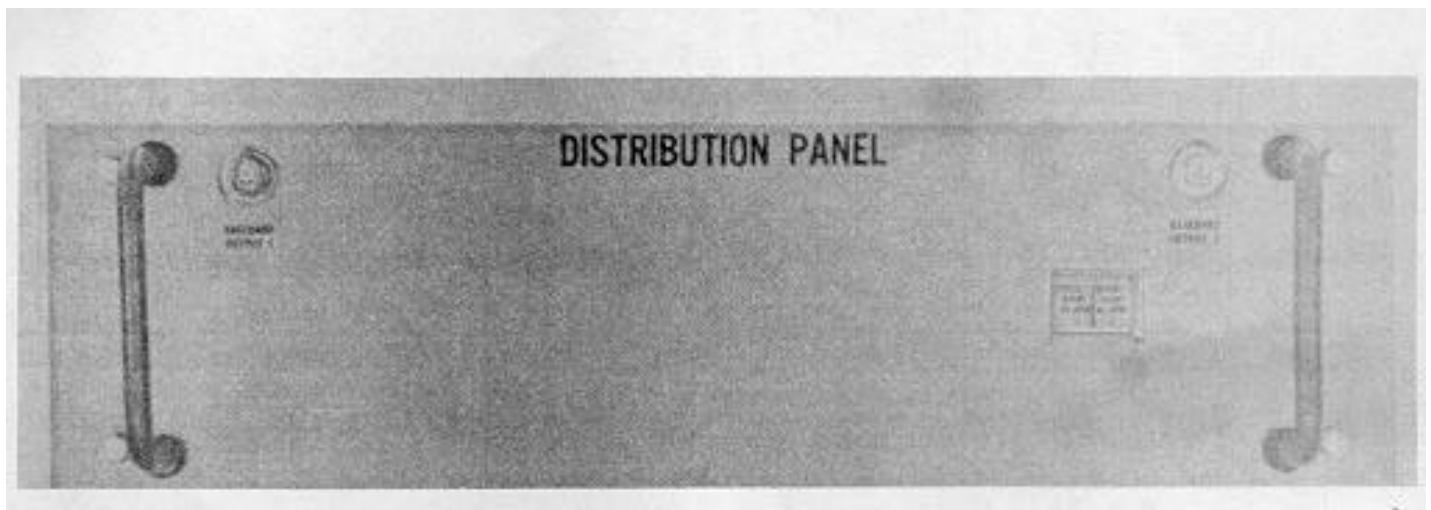

Figure 2-4. Line-Of-Sight Receiver Cabinet Distribution Panel.
- e. Cable W62 to BASEBAND A OUTPUT jack J3 on Distribution Panel (figure 2-4).